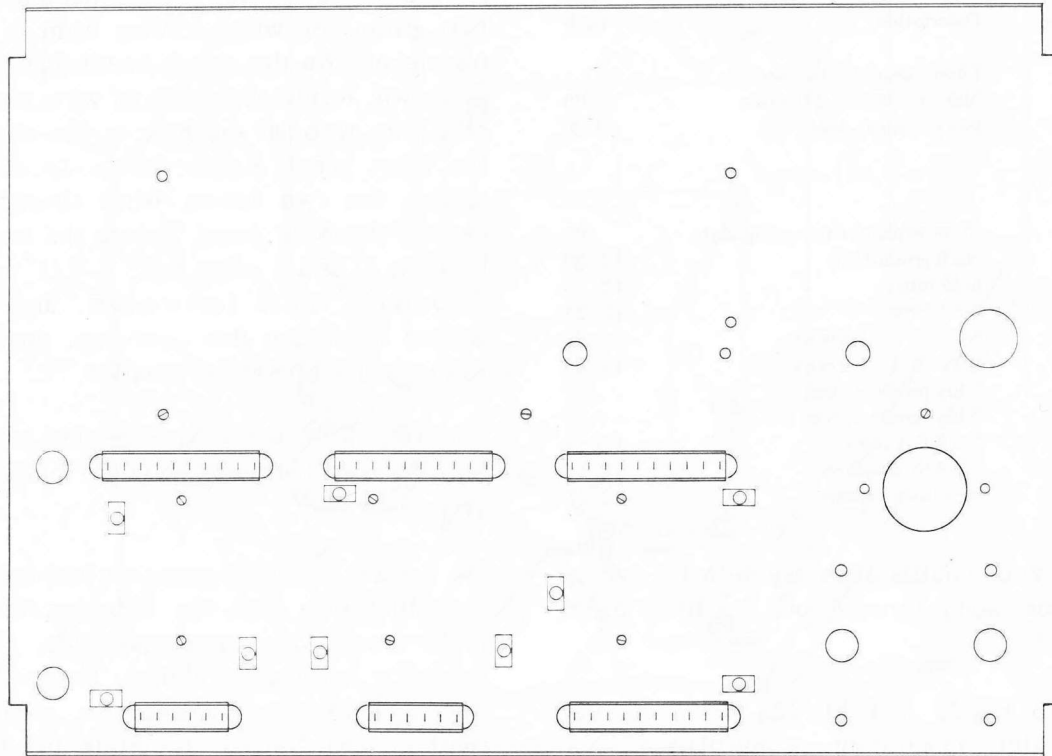

Figure 21. Mounting the circuit board standoffs on the circuit board side of the chassis.
(9) Turn the chassis over so that the circuit board side is facing upward. Locate the nine circuit board standoffs and mount one in each of the positions shown in Fig.21 ()